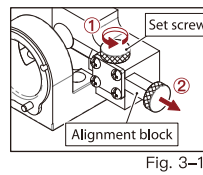
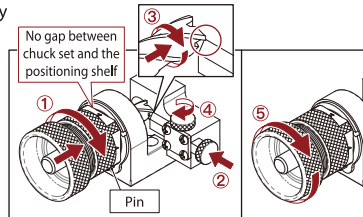
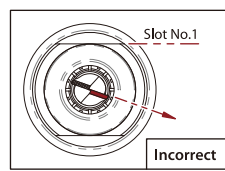

Fig. 3-1
Fig. 3-2
Fig. 3-3
1. Preset the position of the alignment block. (Fig. 3-1)
- ① Loosen the set screw by counterclockwise.
- ② Pull out the alignment block to the end.
2. End mill positioning (Fig. 3-2):
- ① Align Slot No.1 of the clamping nut to the pin on the positioning shelf, insert the chuck set into the positioning shelf and fit them with no gaps, then turn the chuck set clockwise until it stops by the pin.
- ② Slowly move the alignment block inward.
- ③ Push the end mill to the end and slowly turn it clockwise until the outer corner of the end mill's longer cutting edge touches the tip of the alignment block.
- ④ Turn the set screw clockwise to lock the alignment block.
- ⑤ Tighten the chuck set to secure the end mill.
3. Gently turn the chuck set counterclockwise and take it out, make sure the end mill's longer cutting edge is parallel to the Slot No.1 of clamping nut (See Fig. 3-3).
※ If the end mill's longer cutting edge is angled away from the Slot No.1 of clamping nut (Fig. 3-3), change to the alignment block with a notch on the front, insert with the notch facing up (Fig. 3-4), then reposition the end mill.